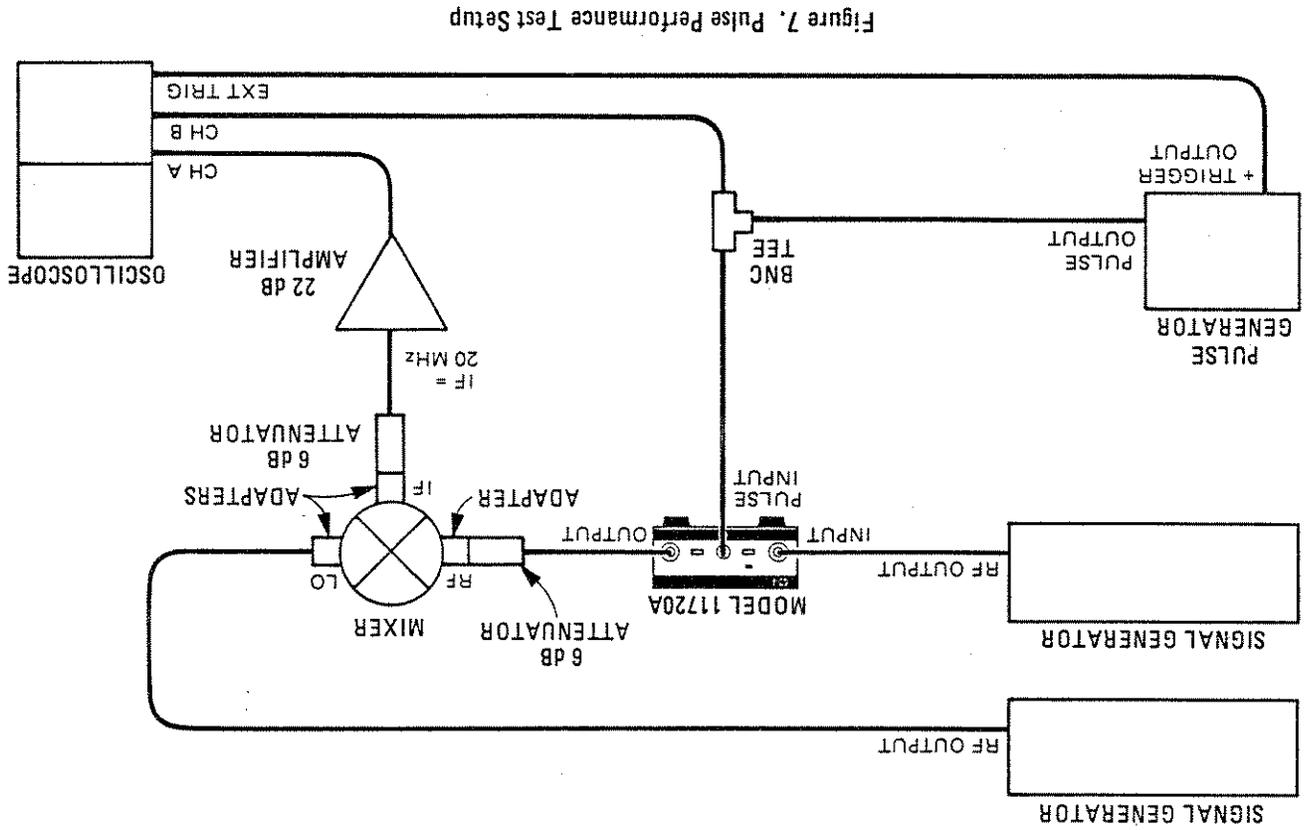

Figure 7. Pulse Performance Test Setup
1. Connect equipment as shown in Figure 7.